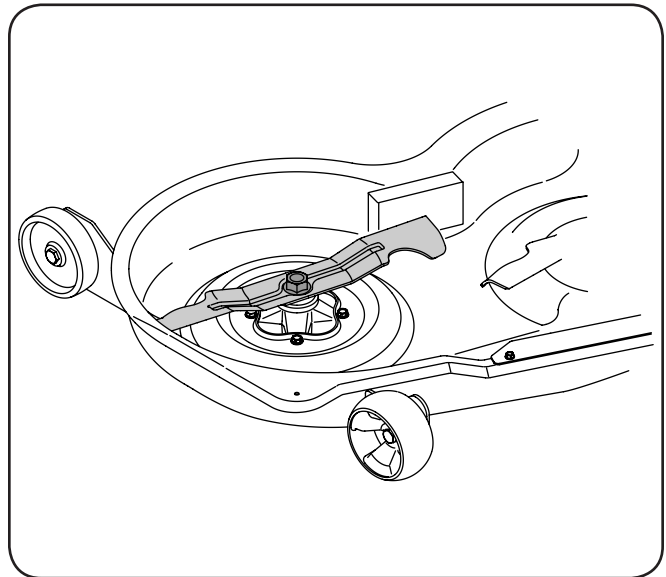

Figure 7-5
2. Place a block of wood between the center deck housing baffle and the cutting blade to act as a stabilizer. See Figure 7-5.
3. Remove the flange lock nut that secures the blade to the spindle assembly. See Figure 7-5.